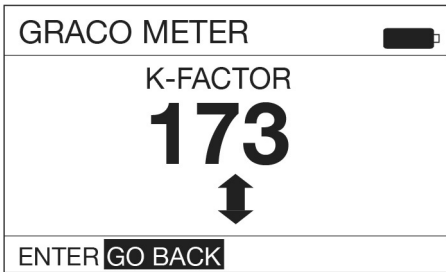

FIG. 28
- The k-factor adjustment screen shown in FIG. 28 displays.